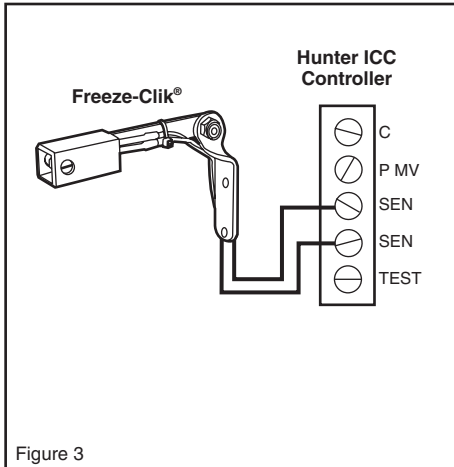

Figure 3
3. Connect one wire to the terminal labeled "SEN" and the other wire to the other "SEN" terminal (See Figure 3).